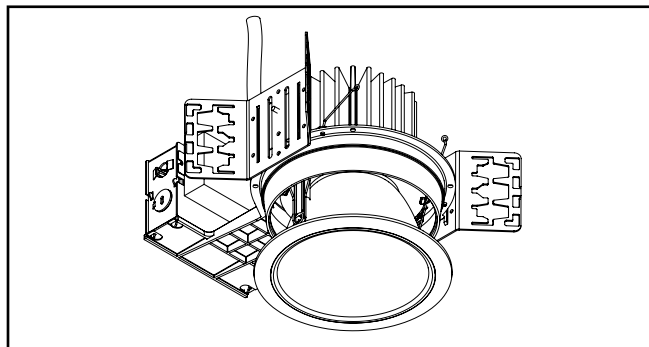

Figure 9
9. Install the LED engine and trim assembly by inserting the torsion springs into the spring receivers located inside the housing (Figure 9.) or insert the screws through the trim flange into the tinnerman clips on the brackets attached to the housing.